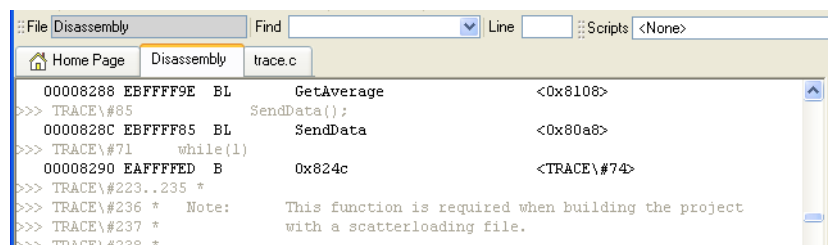

Figure 10-22 Disassembly view
- a. Scroll down the **Disassembly** tab until the first instance of `while(1)` is visible. Figure 10-22 shows an example: